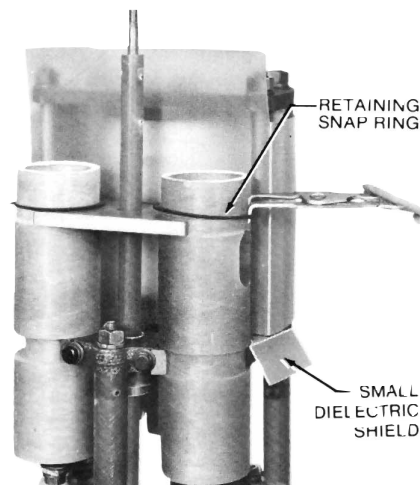

Figure 8. Removing retaining-snap rings
3. Remove the retaining-snap rings that secure the contact tubes to the moving contact rod guide (Figure 8).